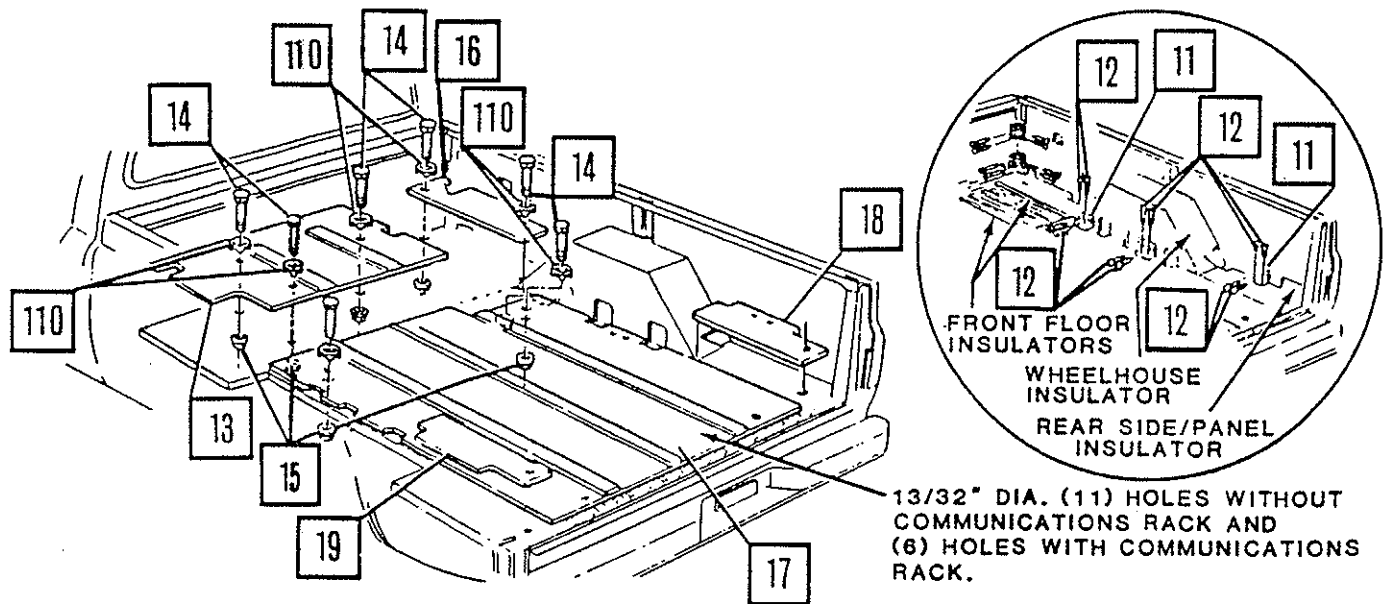

Figure 3.
If communications rack is used, leave front floor insulators (items 13 and 16, Figure 3.) out and do not cut rear center floor.
22. Position center plywood insulators in floor of pickup bed (Figure 3.) with rear of center plywood against floor panel insulator molding.
23. Install "L" brackets to front panel, center floor at wheelwells and floor pieces at rear side wall. Using "L" brackets as a template, drill  $3/32$  inch holes in wood side and front insulators, and secure with wood screws (Figure 3.).
25. Using floor insulator holes as template, center punch and drill 13/32 inch holes in front of cargo floor, and install forward carriage bolts and nuts (Figure 3.). Tighten to 15-22 lb.-ft. (20.0-30.0 Nm).